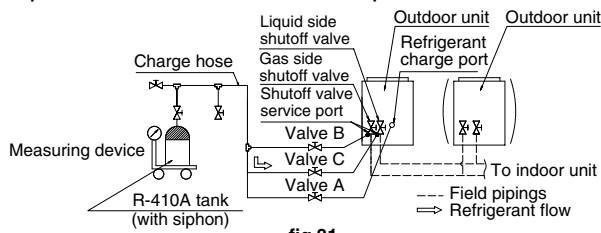

fig 31
- Open the valve C (See the figure 31. The valve A, B and the liquid pipe, suction gas pipe shutoff valves must be left closed), and charge the refrigerant of the “additional charging amount” from the liquid side shutout valve service port.